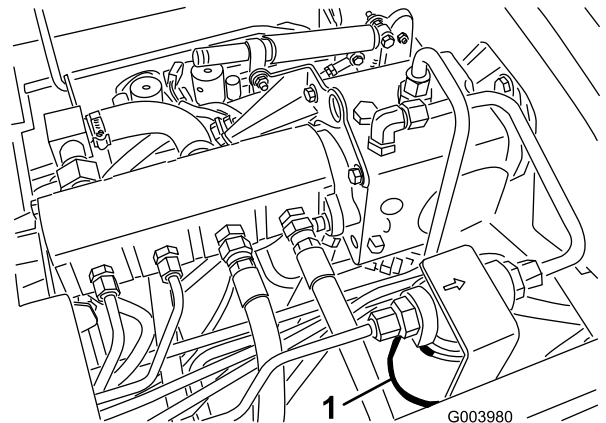
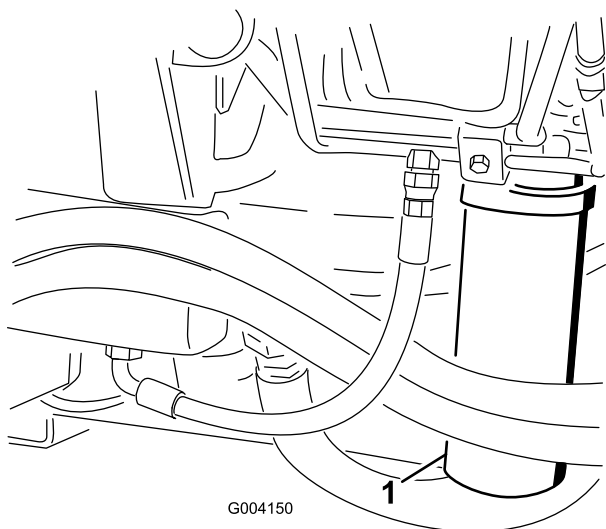

Figure 57
Figure 58
2. Clean the area around the filter mounting area and place a drain pan under filter (Figure 57) and (Figure 58).